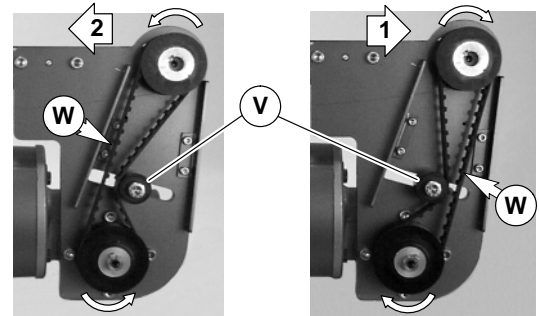

Figure 16
9. Depending on conveyor belt travel (direction 1 or 2), locate timing belt tensioner (V of Figure 16) as shown. Tension timing belt to obtain 0.125" (3 mm) deflection for 1.0 lb (456 grams) of force at timing belt mid-point (W). Tighten tensioner screw to 103 in-lb (12 N-m).
3. Depending on conveyor belt travel (direction 1 or 2), locate timing belt tensioner (V of Figure 16) as shown. Tension timing belt to obtain 0.125" (3 mm) deflection for 1.0 lb (456 grams) of force at timing belt mid-point (W). Tighten tensioner screw to 103 in-lb (12 N-m).
5. Depending on conveyor belt travel (direction 1 or 2), locate timing belt tensioner (V of Figure 16) as shown. Tension timing belt to obtain 0.125" (3 mm) deflection for 1.0 lb (456 grams) of force at timing belt mid-point (W). Tighten tensioner screw to 103 in-lb (12 N-m).